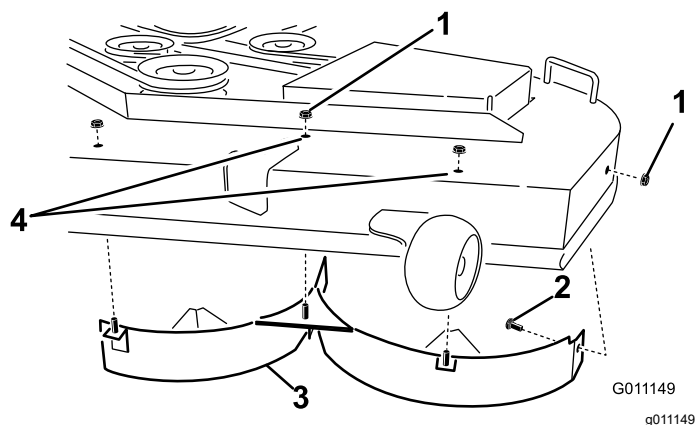

Figure 17
- Remove the 3 locknuts (5/16 inch) secured to the welded posts of the left baffle on the top of the mower deck at the center, left of center, and left positions (Figure 17).
5. Remove the carriage bolt and locknut on the side wall of the mower deck securing the left baffle to the deck (Figure 17).
6. Remove the left baffle from the mower deck (Figure 17).
7. Locate the 2 bolts in loose parts and use the existing locknuts and install these fasteners into the holes shown in Figure 17 on the mower deck to prevent flying debris.